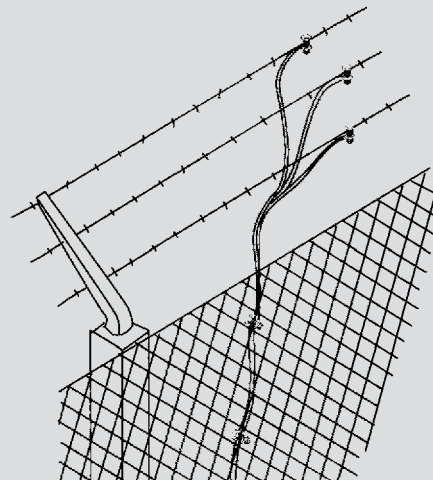

Figure 79.
6. When fence posts are nonconducting material, a suitable bonding connection shall be made to the fence mesh strands and the barbed wire strands at each grounding conductor point. (See Figure 79.)